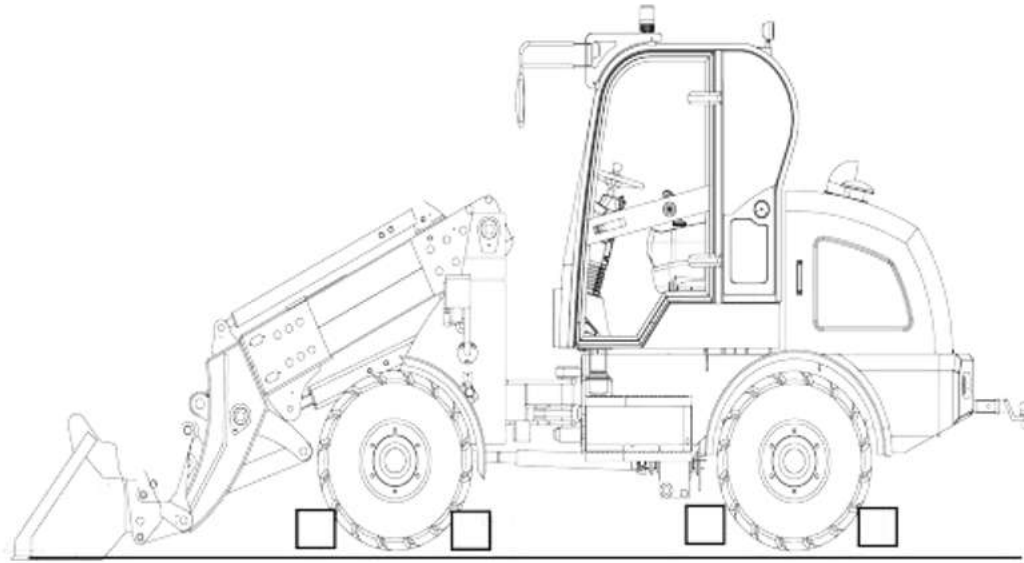

Figure 6-24 Parking status
Step 1: Park loader on a flat field, place control handle in neutral position, stop and pull up parking brake handle, put the blocks before and after the tires, as shown in Figure 6-24;